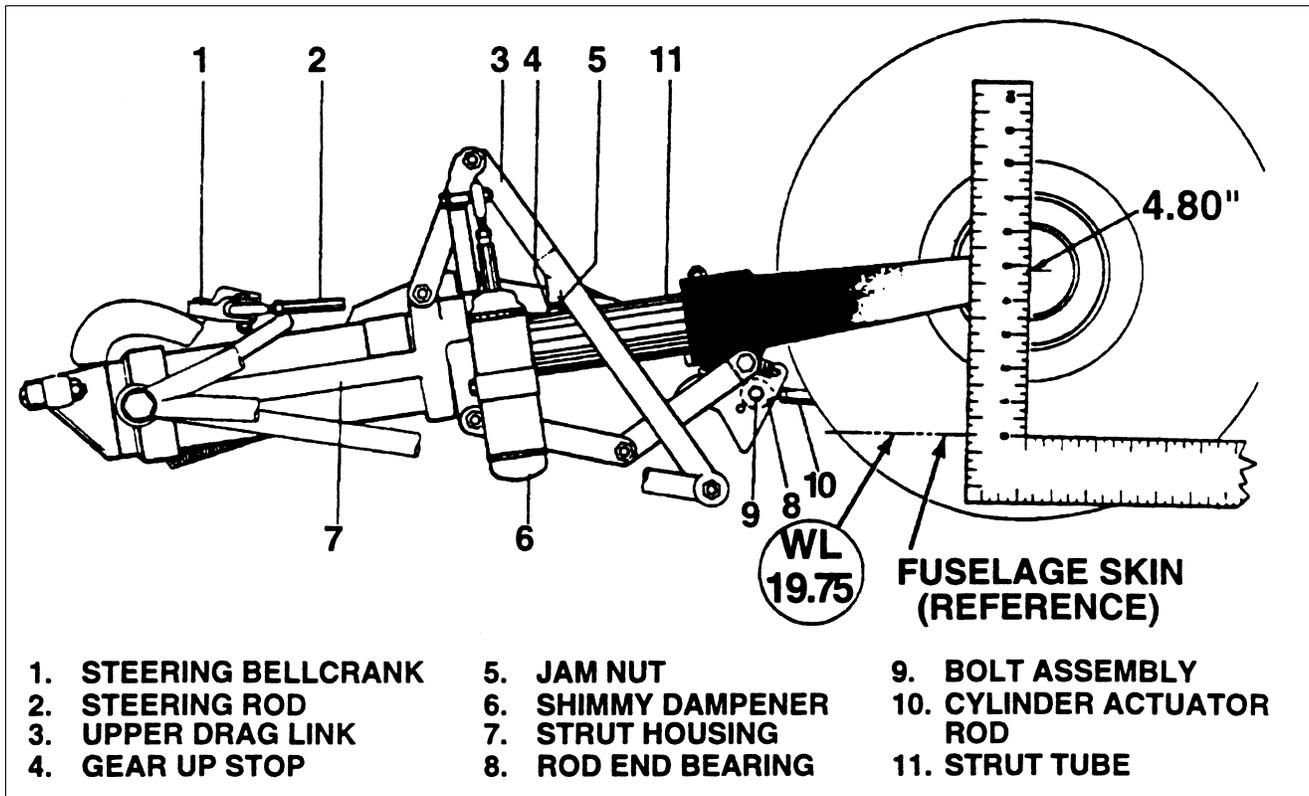

Figure 32-8. Nose Gear Adjustment
4. Adjustment of Nose Landing Gear (Refer to Figure 32-8)